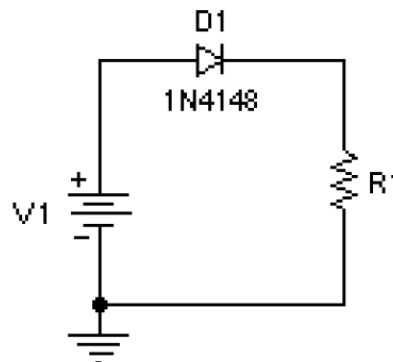

Figure 2-2: Half-wave rectifier
1. Approximation: Using the assumption $V_f = 0.7V$, analyze the circuit in Fig. 2-2 for $V_1 = 5V$ and $R_1 = 3.3k$. First set of data.
3. Build the circuit shown in Fig. 2-2 with the component values used in the preparation section; measure the current and voltage of the diode. Also record the output waveform of this circuit when the DC source is replaced by a sine wave with the same parameters used for the full-wave rectifier in the preparation section.